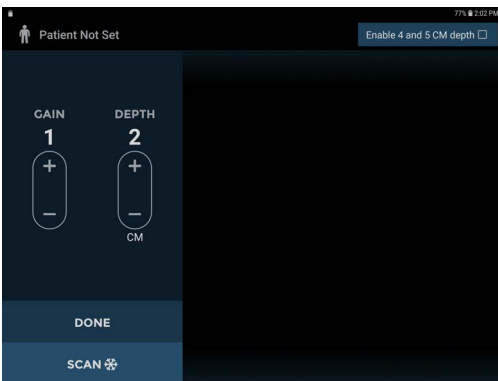

FIGURE 35. Enable 4 and 5 CM depth
2. Select **Enable 4 and 5 CM depth** (see FIGURE 35. Enable 4 and 5 CM depth).